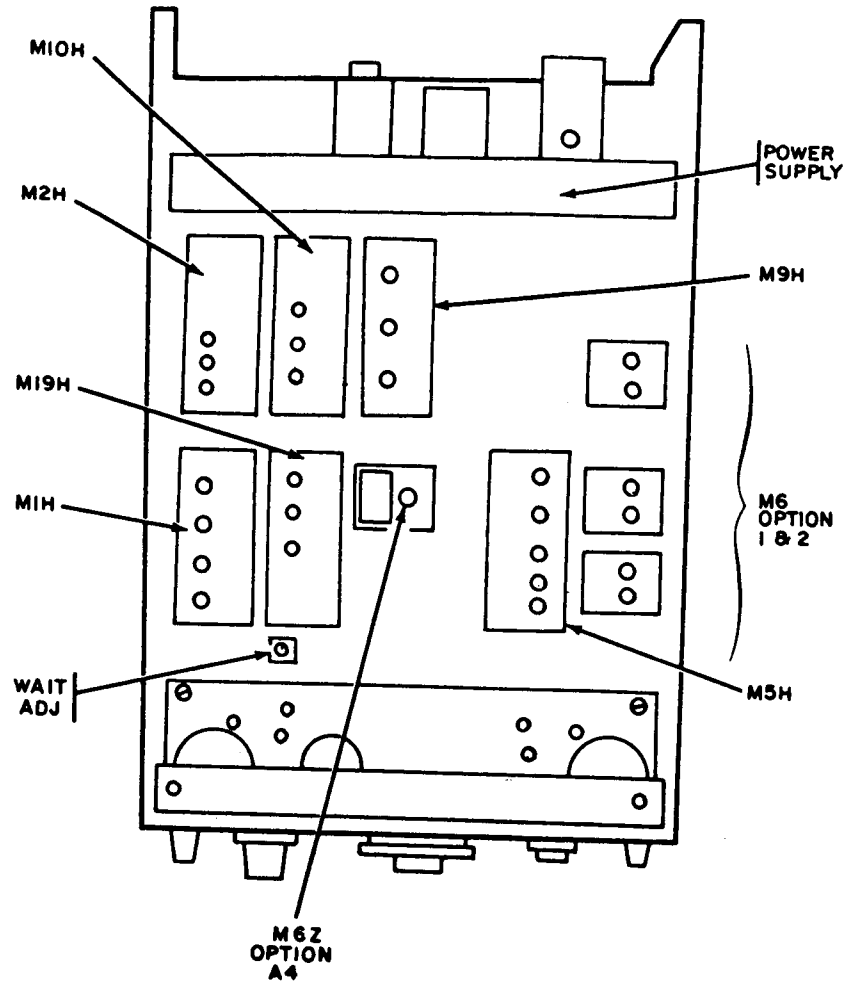

Figure 3. Test instrument - top view.
(2) Disconnect **SWEEP SAMPLE OUT** connector from M5H (fig. 3) module and remove input to RF out.
(3) Connect cable assembly to **SWEEP SAMPLE OUT** on M5H.
(4) Adjust **SWEEP SAMPLE ADJ** (fig. 3) for a detected output of .035 V (R).
(5) Remove bottom cover.
(6) Locate the size control for each marker module.
(7) Adjust the size control on each marker module until the amplitude of the markers does not increase.
TI should be thoroughly stabilized by operating 1 hour before the following adjustments are made. See figure 3 for location of adjustments.
(3) If power meter does not indicate between +8.5 and +9.5 dBm, perform **b** below.
(4) Set **OUTPUT** vernier to **0 dBm**.
(5) Power meter will indicate between -0.5 and +0.5 dBm.
(6) Set **OUTPUT** vernier to **-10 dBm**.
(7) Power meter will indicate between -9.5 and -10.5 dBm.
b. Adjustments. (See figure 3 for location of adjustments.)
(1) Set **OUTPUT** to **+10 dBm**.
(2) Adjust M10H **LEVEL MAX** until power meter indicates **+10 dBm** (R).
(3) Adjust **OUTPUT** vernier to **-10 dBm** (fully ccw).
(4) Adjust M10H **LEVEL MIN** until power meter indicates **-10 dBm** (R).